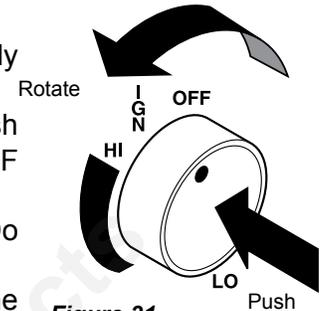

Figure 31 -
6. From OFF position, push in gas control knob slightly and turn counterclockwise to the IGN position. Figure 31. Push in and hold control knob for 5 seconds.